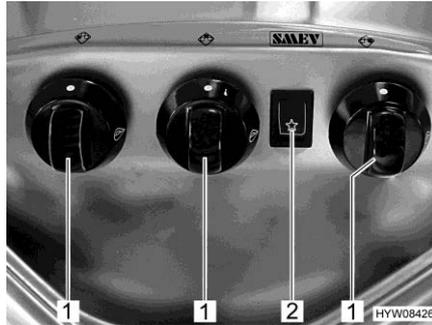

Fig. 180 Operating controls (gas cooker)
- Turn the control knob (Fig. 180,1) on the burner you wish to use to the ignition position (large flame).
- Press rocker switch (Fig. 180,2). Ignition sparks are generated at the burner.